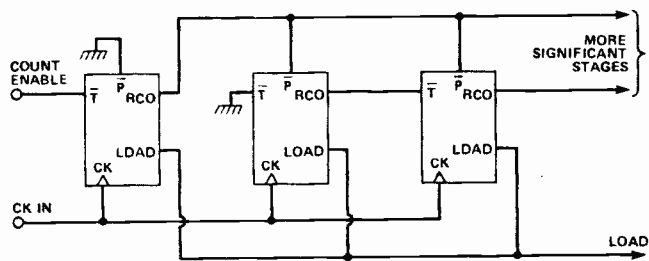

Fig. 5 Look ahead carry for synchronous counter cascading.
These signals are very important for synchronous cascading. If you simply take the ripple carry out of the first stage and connect it to the clock input of the next, you create an asynchronous stage in your counter. The proper connection for cascading is shown in Fig. 5. The ripple carry output of the first (fastest) stage is used to enable (P) all subsequent counters, and the ripple carry output of the second stage is connected to the T enable of the third stage, whose RCO is connected to the T of the fourth, and so on. A common clock drives all stages synchronously. The 1000:1 range we require is provided by three cascaded four-bit counters (in fact 4096:1).